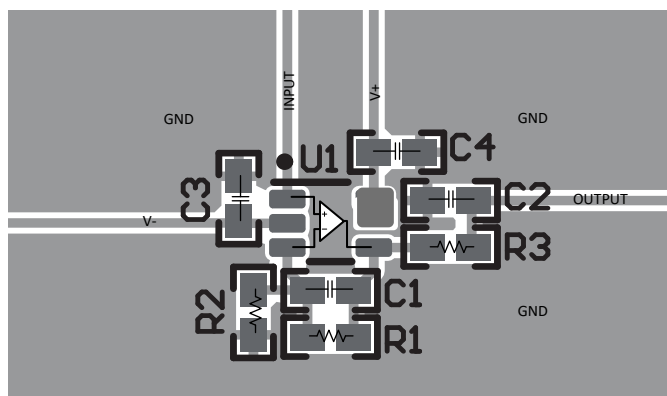
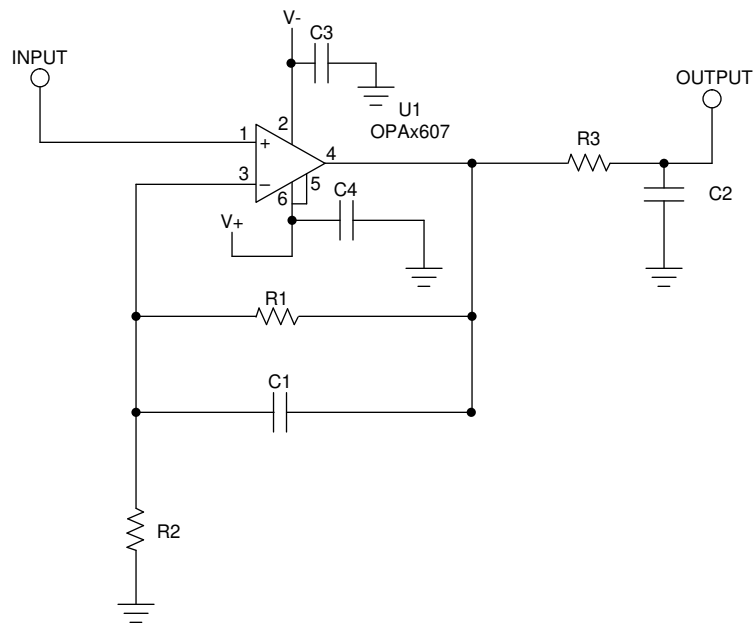

**Figure 12. Operational Amplifier Board Layout for a Noninverting Configuration**
**Figure 13. Layout Example Schematic**
- Place the external components as close to the device as possible. Keeping  $R_F$  and  $R_G$  close to the inverting input minimizes parasitic capacitance; see Figure 12 and Figure 13.